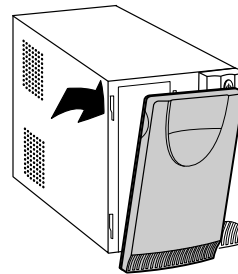

Figure 2 Removing the UPS Front Bezel
- 2 Pull the top left corner forward and remove the UPS front bezel (see Figure 2).